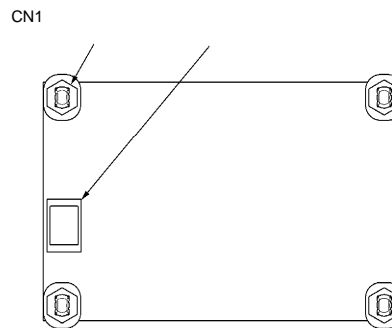

Figure 2 Front of the Card
- (2) Insert four spacers and connector CN1 on the back of the OPC-F1-DEV (Figure 2) into the four spacer holes and Port A (CN4) on the inverter's control printed circuit board (PCB) (Figure 4), respectively.